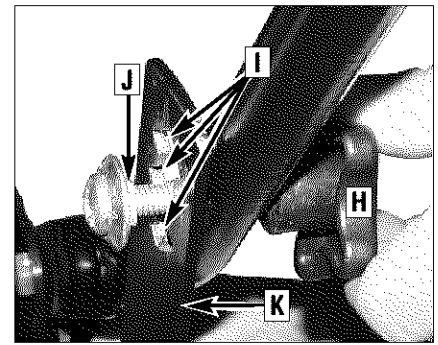

Figure 4-5: Adjusting handlebar height.
- a. Loosen one of the lower handlebar adjustment knobs (H, Figure 4-5) and give the knob a tap to free the handlebar strut (K) for adjustment. Repeat for the other side.
b. Adjust the handlebars to the desired height and then tighten the handlebar adjustment knobs. Make sure that the square shank on the screw (J, Figure 4-5) seats squarely into one of the square slots (I).